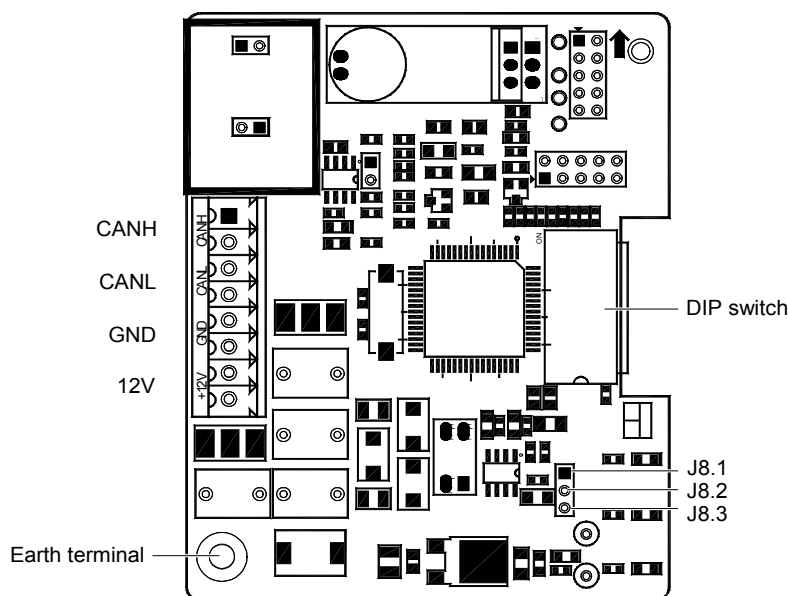

Figure 2-21
- Open the front plate of the energy-saving card plastic shell and take out the energy-saving cardboard along with the card slot inside the plastic shell. The Figure 2-21 shows the energy-saving cardboard.